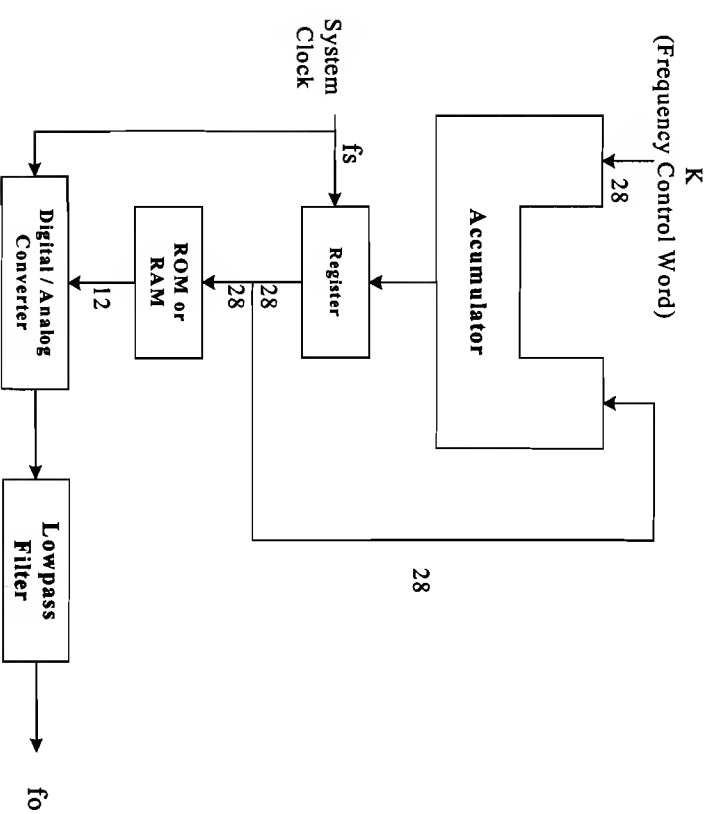

Figure 1
- e) Figure 1 is the basic block diagram of a DDS frequency synthesizer.